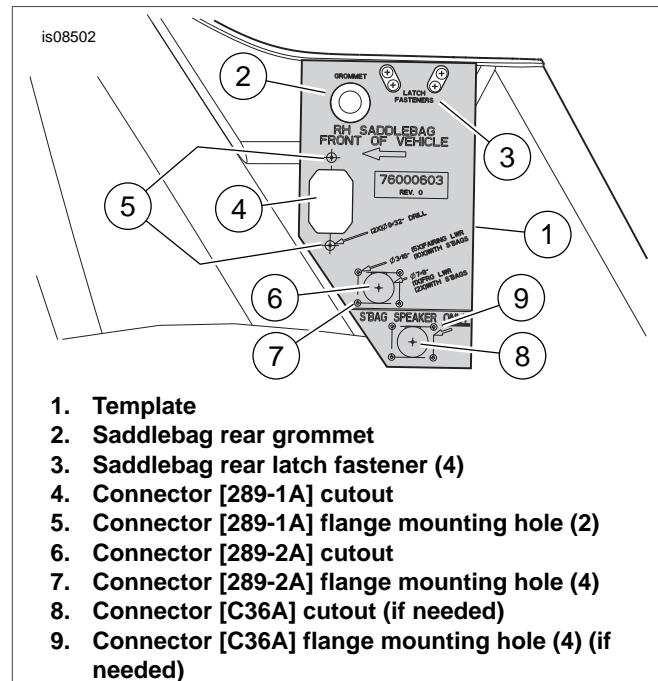

Figure 2. Right Saddlebag Drilling For Stage II Amplifier Installation
2. See Figure 2. Place the saddlebag on a protected surface with the mounting (inboard) side facing up.
See Figure 2, Items 4 and 5.
See Figure 2, Items 6 and 7.
See Figure 2, Items 8 and 9. **ONLY if using saddlebag lid speakers**, drill holes and install connector [C36A] per the instructions in **that** kit.